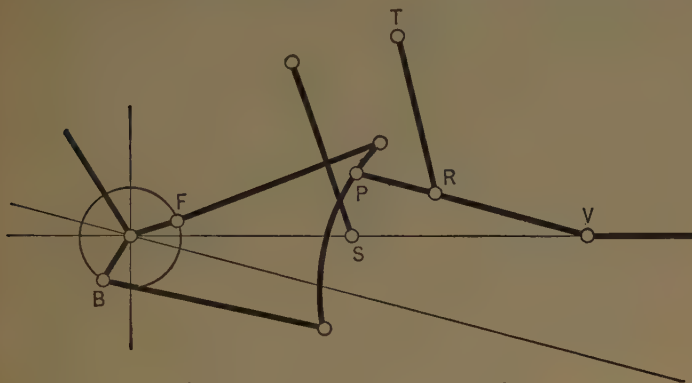

Fig. 93. Gooch Gear, Open Rods.
A. Valve-motions are made, in which the link is not raised and lowered, but the block is; but in this case the convexity of the curvature of the link-slot is towards the axle and eccentric, instead of the concavity being so turned. One of such motions, known as the Gooch gear, is outlined in figure 93, with the links uncrossed. In B is the centre of the backing eccentric; F that of the forward eccentric; S being the saddle and the point of suspension of the link; P being the block, which is attached to the radius-rod PV, that is raised and lowered by the hanger RT, which is carried by a bell-crank lever moved by a hand-lever in the same way as with the Stephenson gear.
A. It must equal that of the radius-rod, as shown in figure 93.